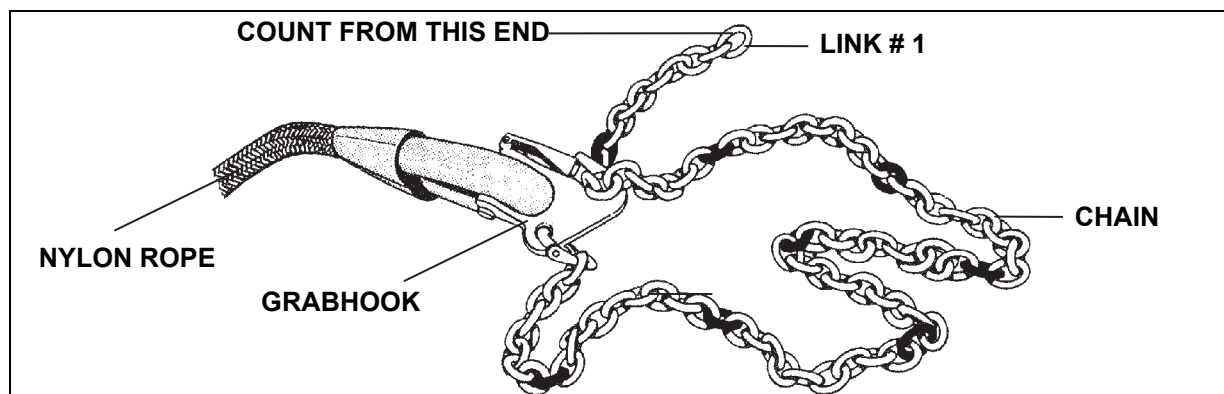

Figure 6-9. Chain Attached to Grabhook by Coupling Link
- Chains.** The welded steel-alloy chains for both sling sets are 8 feet long. Since the chain is used as a loop, this length allows for adjustments from approximately 0 to 4 feet. There are 110 to 115 links in the 8-foot section of the 10,000-pound capacity sling set and 84 to 88 links in the 25,000-pound capacity sling set. The links in the 25,000-pound capacity sling set are larger than those used in the 10,000-pound capacity sling set. Every tenth link is painted to help when you count the links. The chain is attached to the grabhook so that the free end will contain 10 links to the first painted link (figure 6-9). If the tenth link from the free end is not painted, ensure the chain is correctly attached to the grab hook (not reversed). If the chain is attached correctly you may want to remove the paint from all of the painted links and repaint the links making sure you paint each tenth link starting from the free end. When rigging a load, always count the chain links from the free end. If an additional chain length is required by the rigging procedures, use a coupling link to add it to the existing chain.